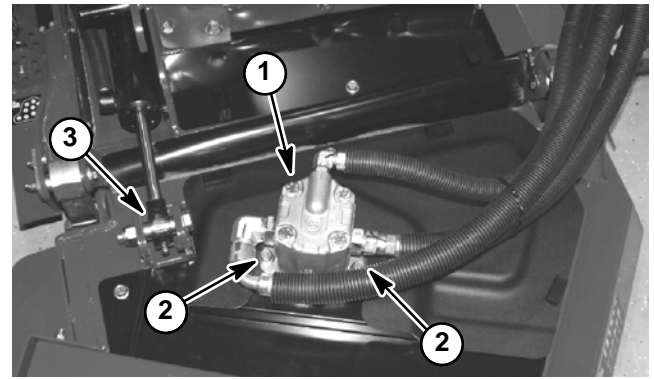
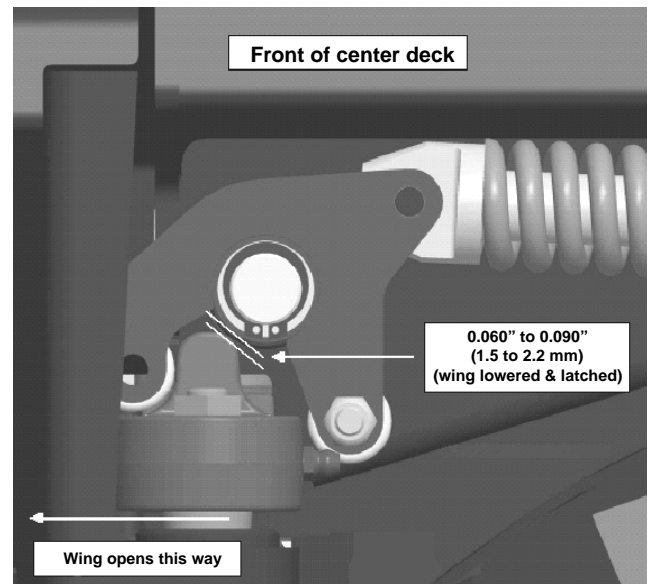

Figure 7
Figure 8
2. Fully raise wing deck, stop engine and remove key from the ignition switch. Remove three (3) washer head screws and shield strap that secure flex shield to wing deck. Lower wing deck.
4. Remove cap screw and lock nut that secure lift cylinder clevis to the wing deck (Fig. 7).
5. Remove switch shield (item 50) from center deck.
7. Remove cap screw (item 29) from pivot pin on upper end of both links. Cap screw on rear link also uses a flat washer (item 28).
A. Place one (1) hardened spacer (item 42) on each side of the front link. Use two (2) thrust washers on rear side of assembly so that link is snug between deck brackets. Additional thrust washers should be installed, if necessary, to remove excess clearance.
B. Place one (1) thrust washer (item 6) on each side of rear link. Clearance between rear link and deck bracket is acceptable.
7. Install cap screw (item 29) to pivot pin on both links. Cap screw on rear link uses a flat washer (item 28). Cap screw on front link also secures hose guide (item 38).
8. Position lift cylinder to the wing deck (Fig. 7). Secure cylinder with cap screw and lock nut.
10. Fully raise wing deck, stop engine and remove key from the ignition switch. Secure flex shield to wing deck with shield strap and three (3) washer head screws. Lower wing deck.
11. Lower wing deck and inspect deck latch assembly to insure that front link is locked when the wing deck is in the lowered position. There should be a gap from 0.060" to 0.090" (1.5 to 2.2 mm) between the arm latch actuator and the latch pivot (Fig. 8). If gap is incorrect, adjust link position by repositioning the location of the hardened spacers (item 42) and thrust washers (item 6). At a minimum, there must be one (1) hardened spacer positioned to the rear of the front link.